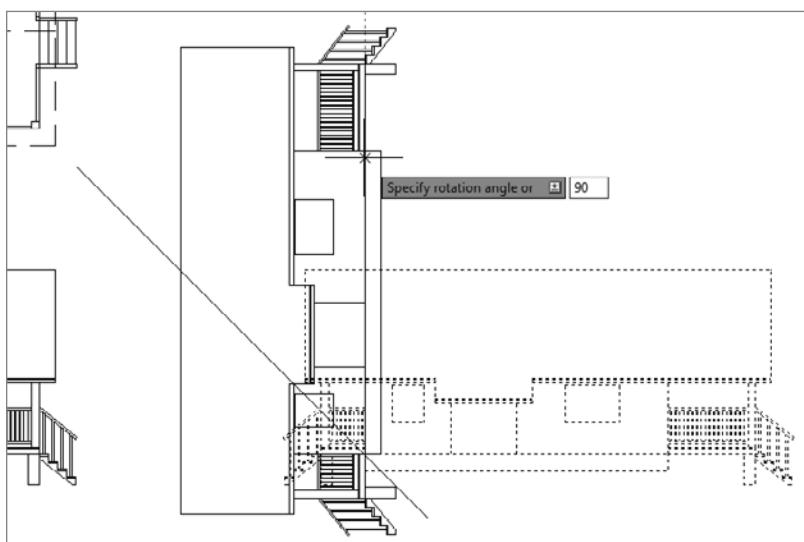

FIGURE 10.47 Rotating the copied elevation
14. Activate the Intersection osnap, and click the intersection of the diagonal line with the base line as you did in steps 9 and 10. For the angle of rotation, enter **90.↵** (see Figure 10.47).